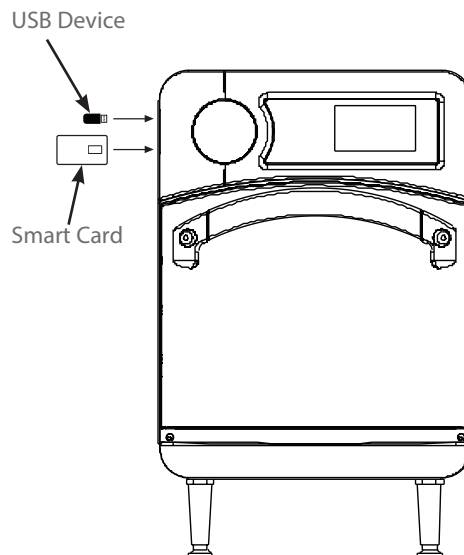

Figure 24: Inserting Smart Card
3. Insert a smart card or USB device (Figure 24).
3. Insert the smart card or USB device (Figure 24).
1. Insert the gray smart card “1 of 3” (Figure 24, page 16).